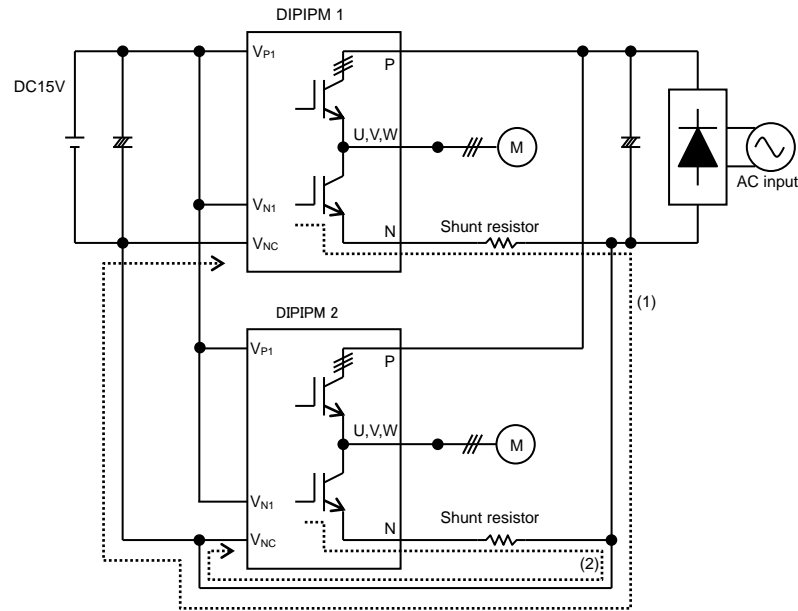

Fig.3-1-13 Parallel operation
Fig.3-1-13 shows the circuitry of parallel connection of two DIIPMs. Route (1) and (2) indicate the gate charging path of low-side IGBT in DIIPM No.1 & 2 respectively. In the case of DIIPM 1, the parasitic inductance becomes large by long wiring and it might have a negative effect on DIIPM's switching operation. (Charging operation of bootstrap capacitor for high-side might be affected too.) Also, such a wiring makes DIIPM be affected by noise easily, then it might lead to malfunction. If more DIIPMs are connected in parallel, GND pattern becomes longer and the influence to other circuit (protection circuit etc.) by the fluctuation of GND potential is conceivable, therefore parallel connection is not recommended.